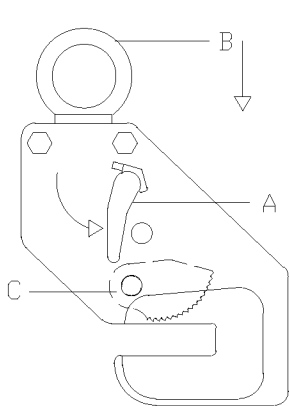

Figure 5
9. Never lift material with the handle in the “open” position (Fig. 5).
11. If a clamp has been overloaded or damaged in any way, take the clamp out of service until proper repairs and/or testing has been completed (see “Monthly Inspection” items 2 and 3 for description of overload symptoms).
2. For the “SBC” and “HBC” Safety Clamp models, open the jaw by releasing the locking handle down (A, Fig. 5), and pushing shackle (B) into the clamp until the lock engages and gripping cams (C) are in the raised position clear of the jaw opening.
- Never lift material with the handle in the “open” position (Fig. 5).
- If a clamp has been overloaded or damaged in any way, take the clamp out of service until proper repairs and/or testing has been completed (see “Monthly Inspection” items 2 and 3 for description of overload symptoms).